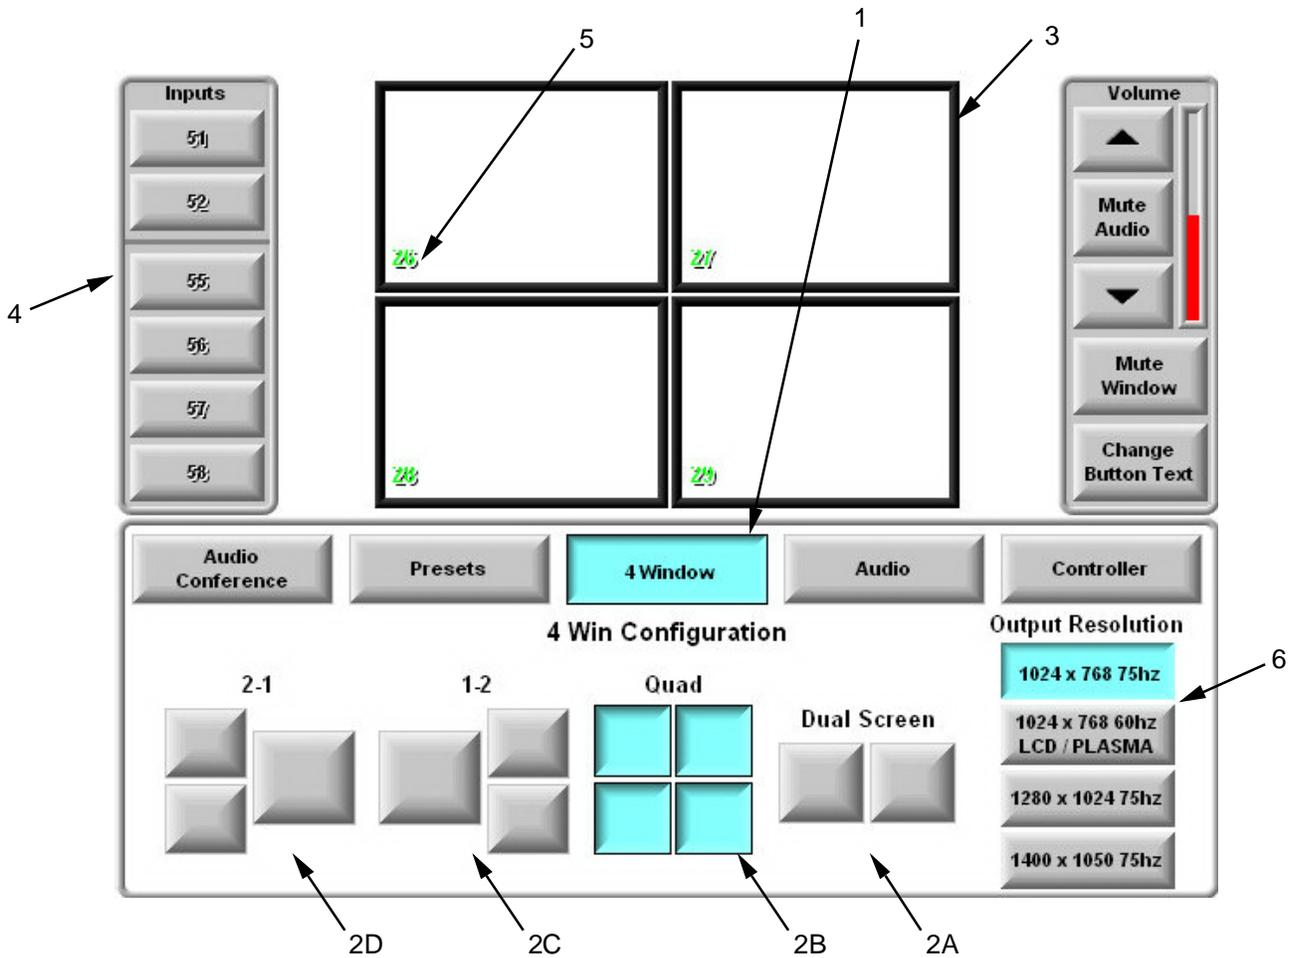

Figure 7. 4-Window Configuration Page.
2. Locate and press the **4 Window** button (Figure 7, Item 1).
3. Observe the 4 Window control configuration displays (Figure 7).
4. There are four possible ways to display video on the Main Display. Locate and press a button title corresponding to the configuration display desired (Figure 7, Item 2A, 2B, 2C, or 2D). From the choices described below, select which screen display configuration is to be used.
5. Observe a line representation of the configuration will display in the control panel video display area (Figure 7, Item 3).
6. To identify which Video Source will be displayed in each of the four quadrants, locate and press one of the Video Source INPUTS button (Figure 7, Item 4). The button will appear darkened to indicate it is selected.
7. Press the center of the window (Figure 7, Item 3) in the video display area corresponding to the desired location of the video output.
8. The label of the INPUT source is displayed in the bottom left (Figure 7, Item 5) of the corresponding window and the video feed shows in the window.
10. Locate and press the Output Resolution button (Figure 7, Item 6) to set the AVCS video output resolution. The button will appear darkened to indicate it is selected.